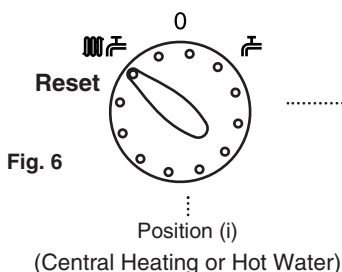

Fig. 6
4. **Position (i)** In this position the central heating will operate according to demand or provide domestic hot water when a tap or shower is turned on (Fig. 6). Priority is given to domestic hot water.